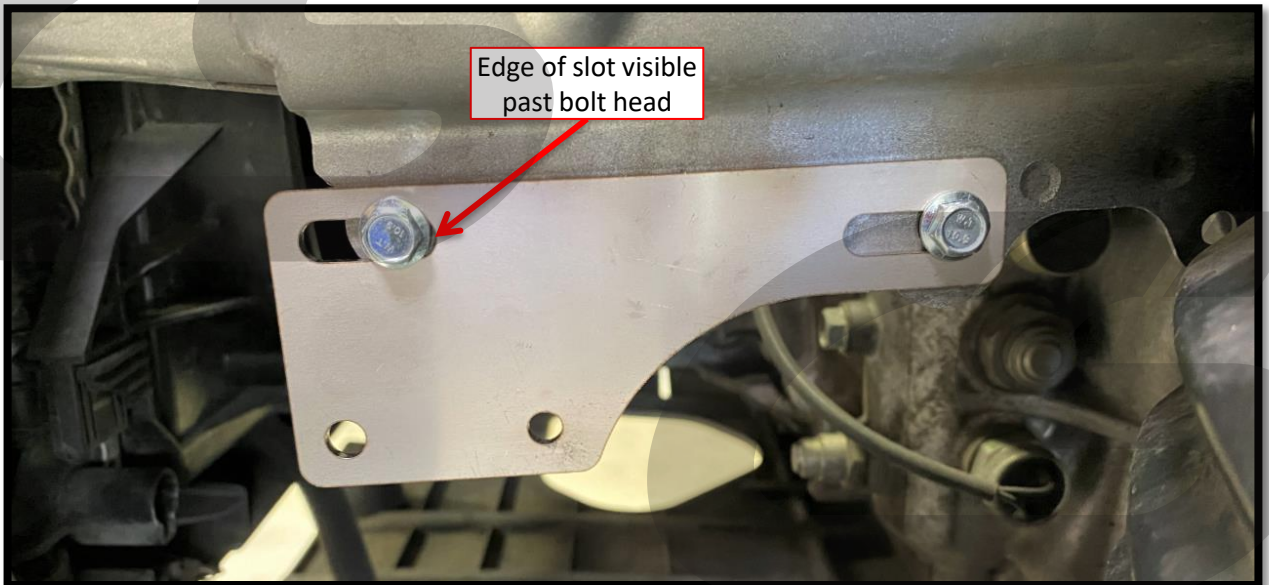

Figure 4b
- c) Install the supplied lower side bracket as shown in **Figure 4b** with two of the supplied M6x1.0x16mm bolts. Ensure the bracket is in the orientation shown and the bolts are approximately $\frac{3}{4}$ " of the way to the rear of the slot as shown (the end of the slot should be visible past the bolt). Leave these bolts loose for now.